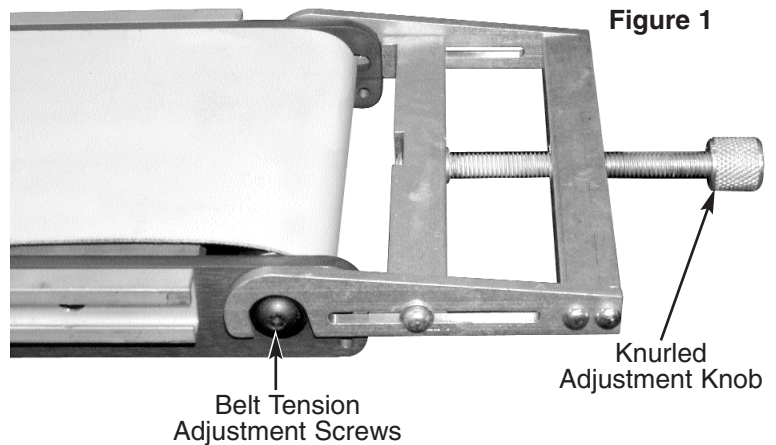

Figure 1
2. Install the belt tension tool with hook connector over the belt tension adjustment screw washers. (See Figure 1 on pg.5)
3. Turn the knurled adjustment knob on the tensioning tool clockwise until tensioning cross brace is against the conveyor side rail ends. (See Figure 1 on pg.5)